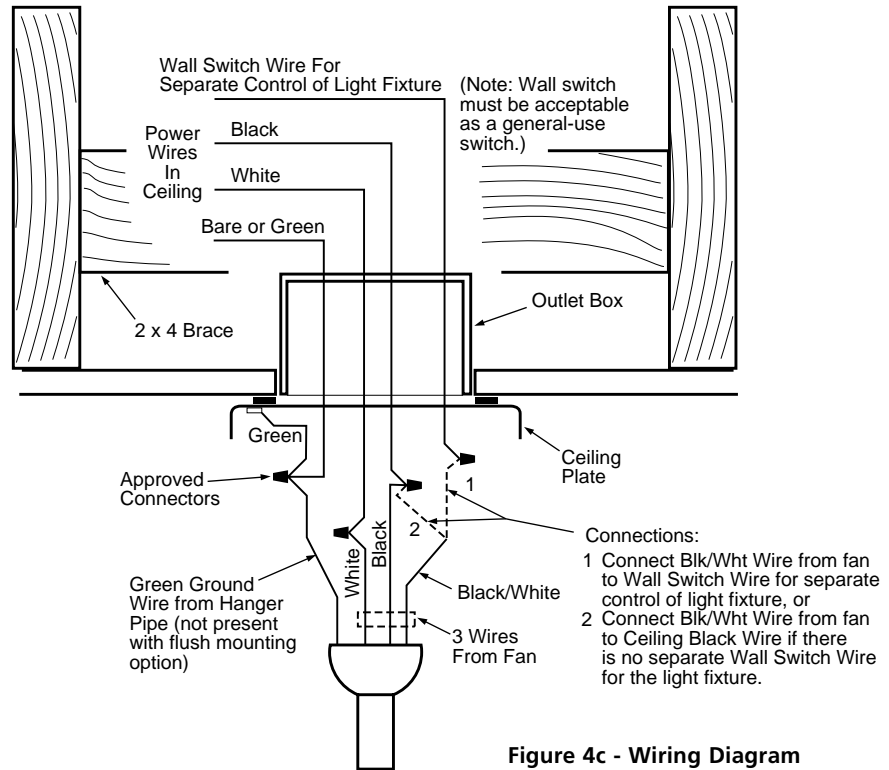

Figure 4c - Wiring Diagram
- Connect the wires as shown in Figure 4c. To connect the wires, twist the bare metal leads together. Place a wire nut over the intertwined length of wire and twist clockwise until tight as shown.